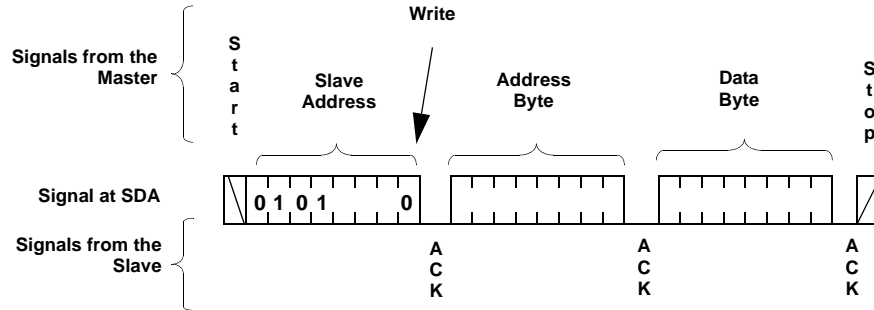
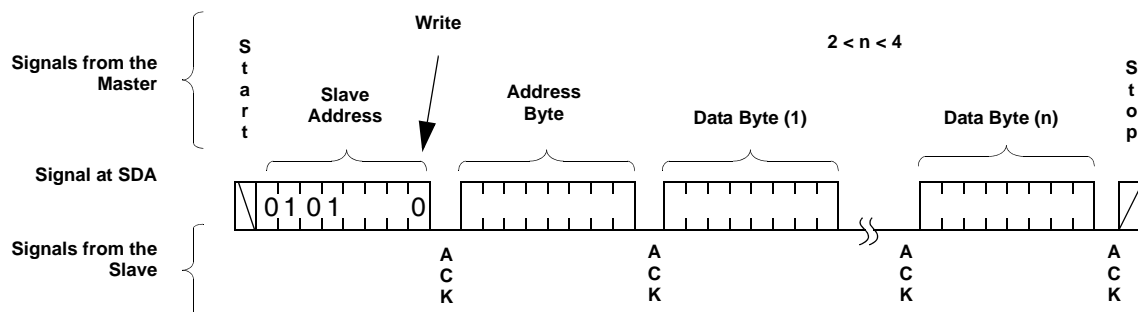

FIGURE 7. BYTE WRITE SEQUENCE
FIGURE 9. PAGE WRITE OPERATION
2. **Access the desired DR or WCR using a new write or read command** (see Figure 7 for write and Figure 9 for read.)
For any Byte Write operation, the X9455 requires the Slave Address byte, an Address Byte, and a Data Byte (See Figure 7). After each of them, the X9455 responds with an ACK. The master then terminates the transfer by generating a STOP condition. At this time, if the write operation is to a volatile register (WCR, or SR), the X9455 is ready for the next read or write operation. If the write operation is to a nonvolatile register (DR), and the \overline{WP} pin is high, the X9455 begins the internal write cycle to the nonvolatile memory. During the internal nonvolatile write cycle, the X9455 does not respond to any requests from the master. The SDA output is at high impedance.
As stated previously, the memory is organized as a single Status Register (SR), and four pages of four registers each. Each page contains one Data Register for each wiper. Normally a page write operation will be used to efficiently update all four Data Registers and WCR in a single Write command. Note the special sequence for writing to a page: First wiper 0A, then 1B, then 1A, then 0B as shown in Figure 9.
transmit up to 4 bytes (See Figure 9). After the receipt of each byte, the X9455 responds with an ACK, and the internal WCR address is incremented by one. The page address remains constant. When the address reaches the end of the page, it "rolls over" and goes back to the first byte of the same page.